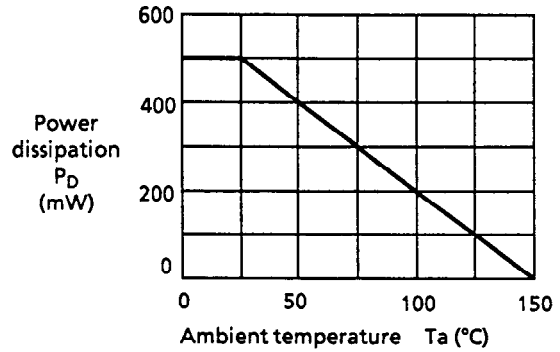

Figure 14 Package power dissipation (when not mounted)
- Take short-circuiting and overheating into consideration during design because no short-circuit or overheat protection circuits and loaded in the S-8437/8438AF. As reference, Figure 14 shows the package power dissipation when unmounting at an ambient temperature.